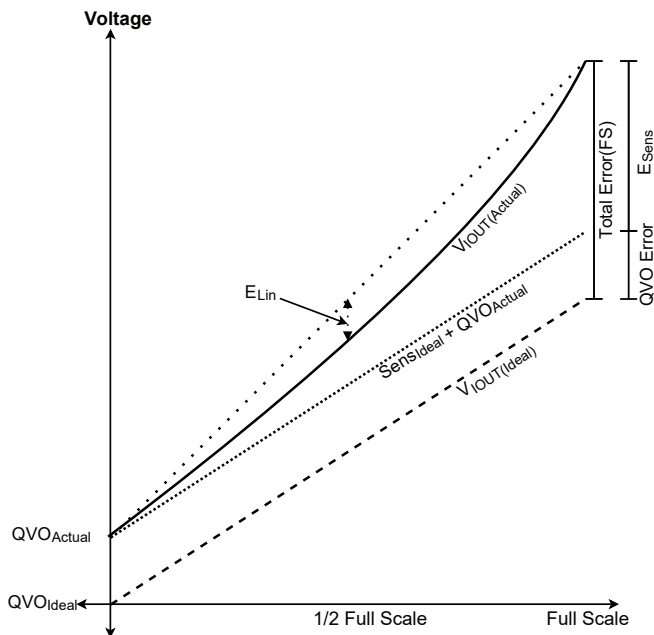

Figure 10: Accuracy Error
As the amount of field applied to the part changes, the sensitivity of the device can also change slightly. This is referred to as linearity error, E_{LIN} (see Figure 10). Consider two currents, I_1 (1/2 FS) and I_2 (FS). Ideally, the sensitivity of the device is the same for both fields. Linearity error is calculated as the percent of change in sensitivity from one field to another. Error is calculated separately for positive ($E_{LIN(+)}$) and negative ($E_{LIN(-)}$) currents, and the percent errors are defined as:
Total output error incorporates all sources of error and is a function of current. At relatively high currents, total output error is mostly due to sensitivity error. At relatively low inputs, total output error is mostly due to offset voltage (V_{OE}). At $I = 0$ A, total output error approaches infinity due to the offset. An example of total error at FS can be observed in Figure 10.